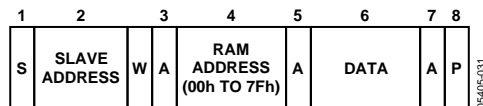

Figure 31. Single-Byte Write to RAM
- Write a single byte of data to RAM. Here, the command byte is the RAM address from 00h to 7Fh and the (only) data byte is the actual data, as shown in Figure 31.